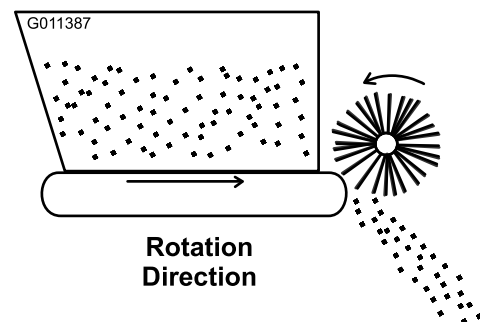

Figure 18
4. Start the vehicle engine and test the rotation of the conveyor and the brush. Place the remote hydraulics lever of the vehicle in the RUN position. The rotation should be as shown in Figure 18. If the rotation is backwards the quick couplers need to be reversed.